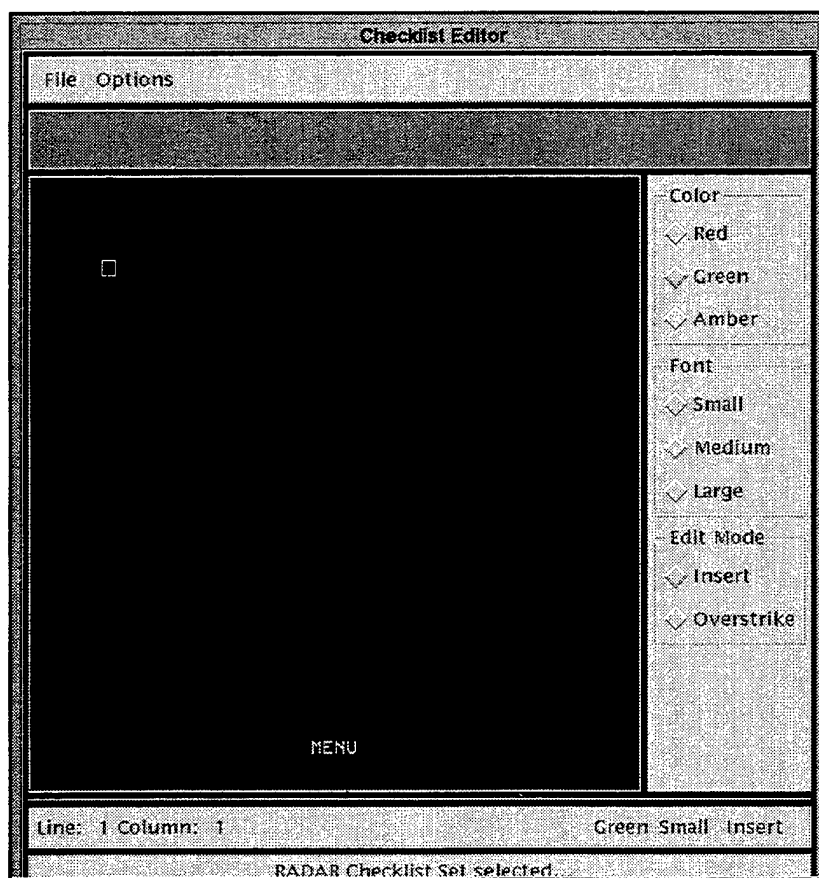

Fig. 41 — New checklist page
- The new checklist page will be blank, with the exception of the word **MENU** at the bottom; this is on the first page of every category in a checklist set. The cursor will be in the first character position of the first line to be typed on the page (Fig. 41).